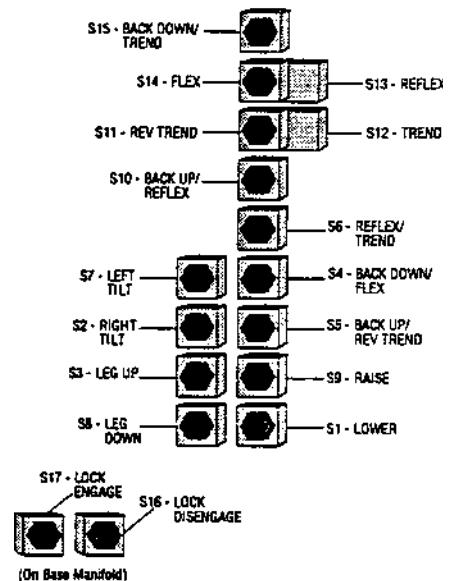

Figure 8-3. Valve Functions
There are 15 cartridge valves on the column ad two on the base. See Figure 8-3 for valve function.
6. Check the function of the valve which was replaced to make sure it works smoothly (see Figure 8-3).